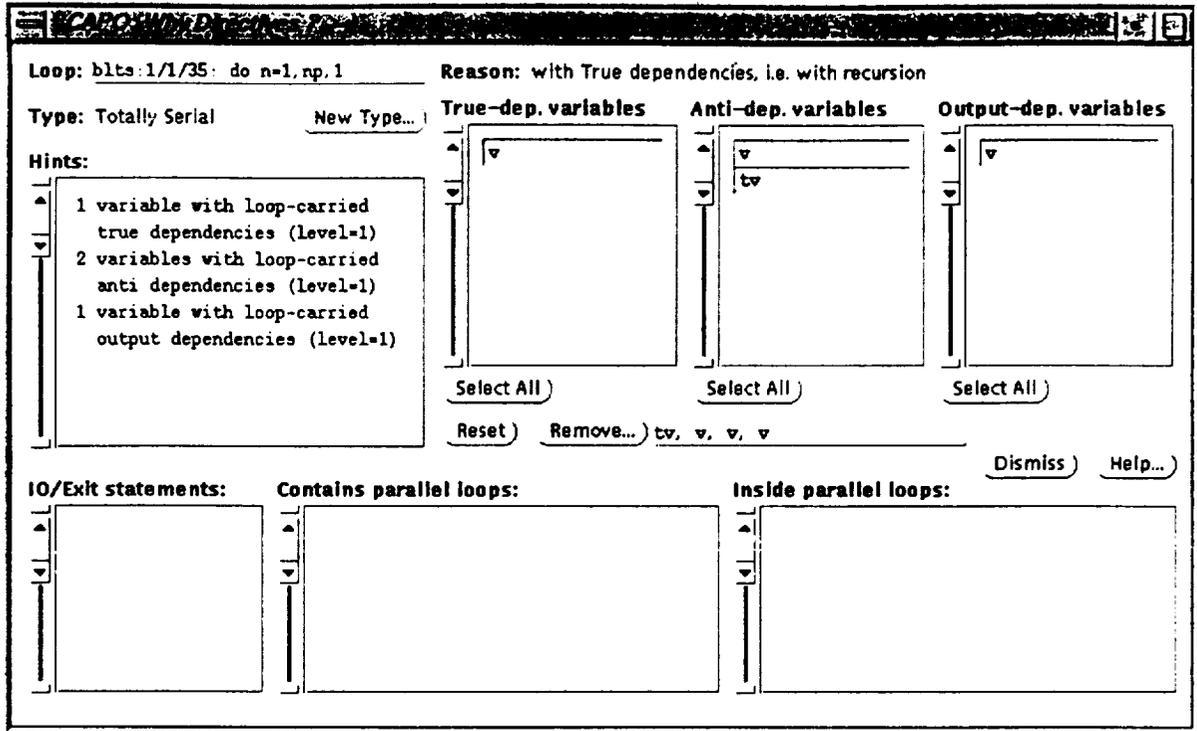

Figure T2-2: The WhyDirectives window for a *Totally Serial* loop. It can be used to remove false dependences for the selected variables.
- 5. Remove false dependences.** In the Directives browser window, select the **Totally Serial** loop filter and the **All Routines** scope. There are four loops listed under this category. Choose the first loop: `blts:1/1/35: do n=1,np,1` and click the **Why** button. The WhyDirectives window as shown in Figure T2-2 will be popped up. As indicated in the window, the serialization of this loop is caused by loop-carried data dependences from two variables: v and tv. After inspecting the loop, the user realizes that this loop performs calculation for all points on a given hyper-plane. Each point on one hyper-plane could be calculated independently, thus in parallel. However, indirect indexing was used to access data elements on the plane and these indices were calculated dynamically and not available at the data dependence analysis stage. Conservative decisions were made to keep these data dependences during the analysis. So, the user can safely remove these *false* dependences to enforce a parallel loop: using either the DepGraph window (in CAPTools) or the WhyDirectives window here (simpler). With the second method, select variable v and tv in the three lists (**True**, **Anti** and **Output**), click the **Remove** button and click the **Apply** button to confirm the action. Apply the same procedure to the second loop: `butts:1/1/35: do n=1,np,1`.